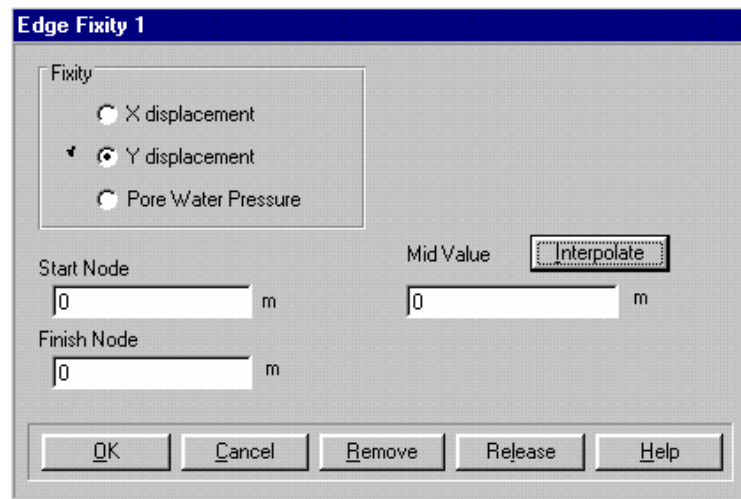

Figure 3-12: Zero Y displacement Fixities
Step 6 The Edge Fixity dialogue box should look like Figure 3-12. Click on **OK** to exit once you have finished.